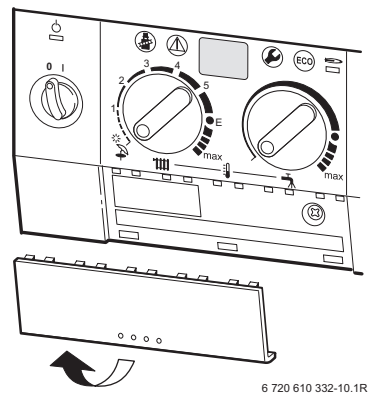

Fig. 24
- Pull out cover panel at the bottom and remove. Refer to fig. 24.